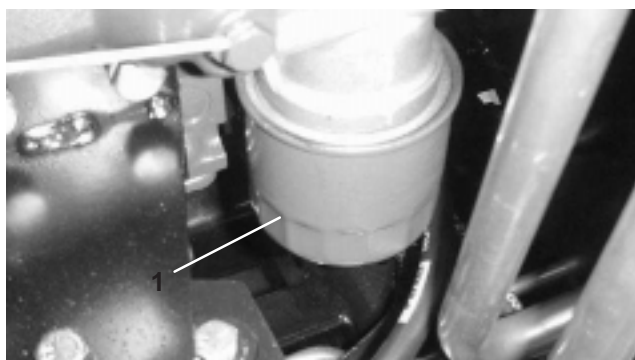

Figure 48
2. Remove oil filter (Fig. 48). Apply a light coat of clean oil to the new filter seal before screwing it on. **Do not over-tighten.**